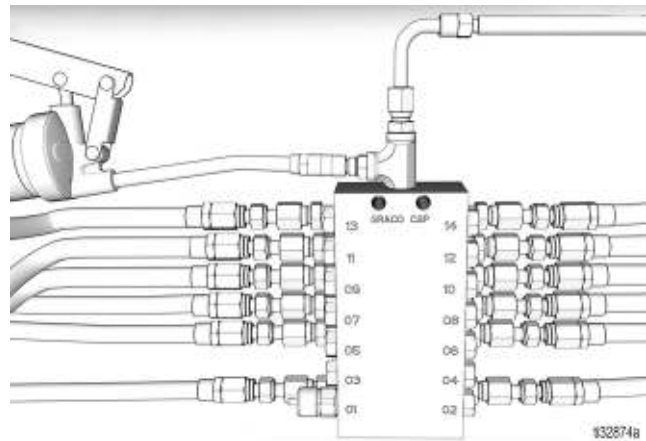

FIG. 38
- Connect a grease gun to the grease zerk on the CSP valves to fill them with grease (FIG. 38).